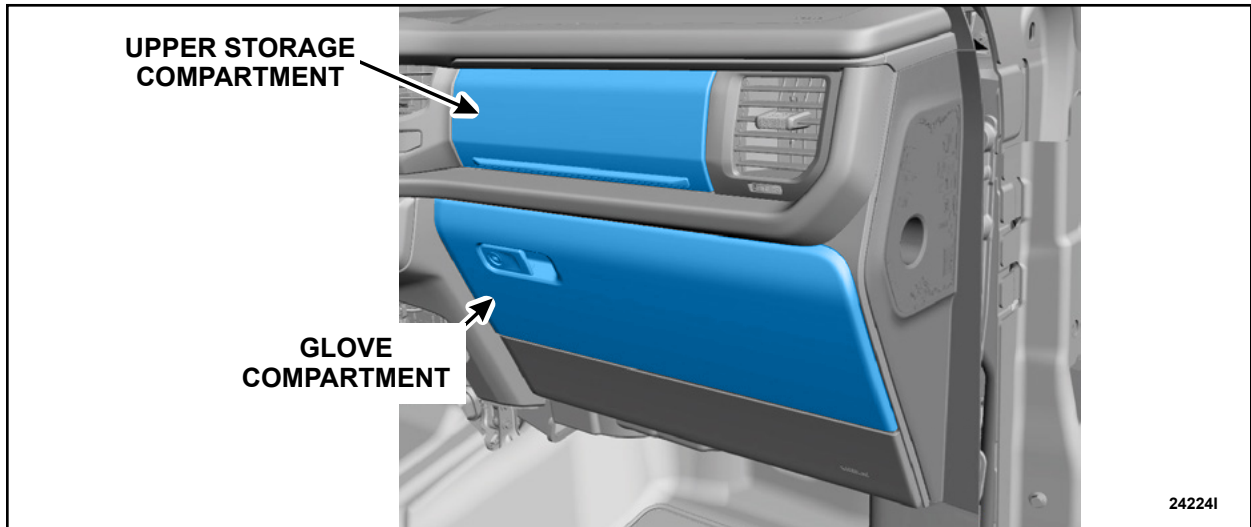

FIGURE 8
14. Verify the function of the glove compartment and if equipped the upper storage compartment. See Figure 8.